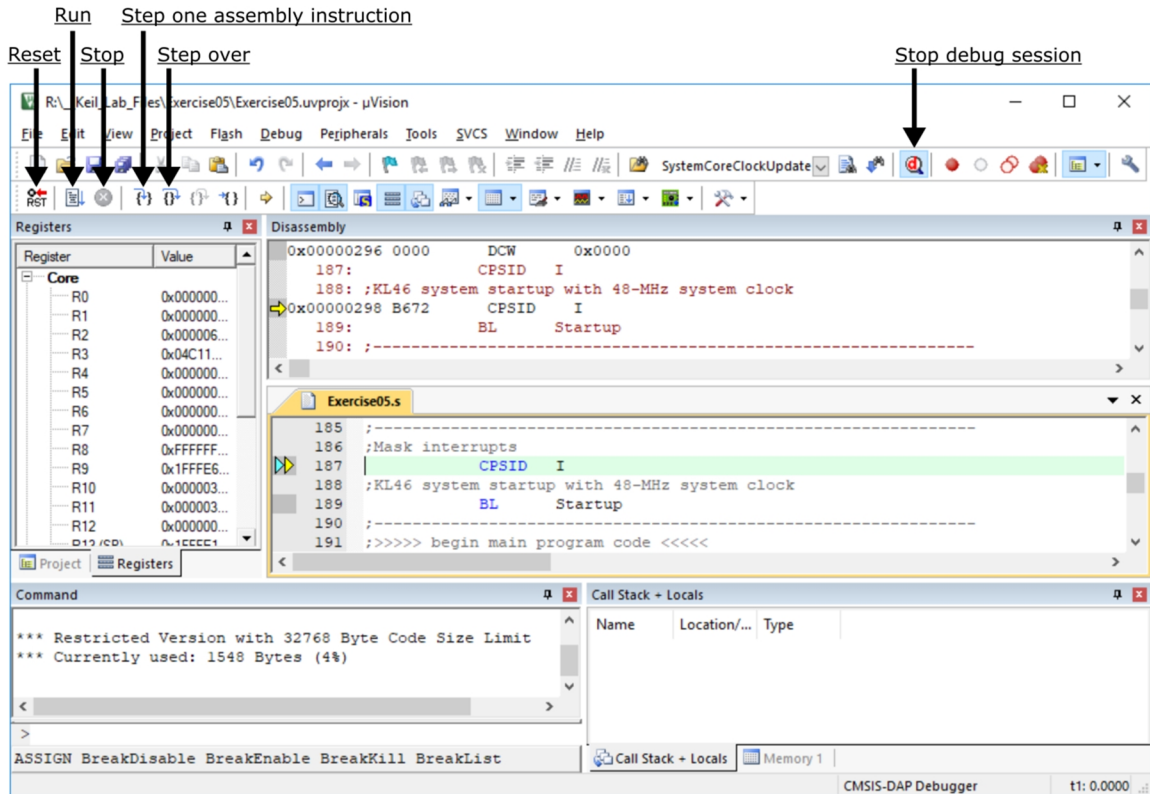

Figure 13. Keil MDK-ARM debugger window starting view
- b. The initial state of the debugger should be similar to what is shown in Figure 13.
Note: Figure 13 shows a clean debug start in the Command pane at the lower left of the debugger window. However, depending on what debug/flash options have been chosen for the project as well as the last state of the debugger, (e.g., from a previous debugging session), the debugger may have error messages in the Command pane at startup, such as “Cannot access Memory.” Such errors at startup are not problems for debugging but rather indicate that a memory viewer or download setting is trying to access memory that is not available at startup. If the associated address viewer or debug settings are changed, the messages will no longer be present when the debugging session starts. Ask lab staff for clarification if there are errors indicated when the debugger starts.
- c. Figure 13 indicates the icons for various debugger commands. The steps that follow explore using these commands to debug the program.
- ⚠ Caution: If a program is actively running in the debugger, it is recommend first to click the  Stop icon to halt execution. The debugger has been known to freeze if a running program is not stopped before attempting to exit the debugger. Following the preceding steps, the  Stop icon in the debugger is grayed out (as it was in Figure 13) at this point since the program is not actively running because execution stopped at the breakpoint.